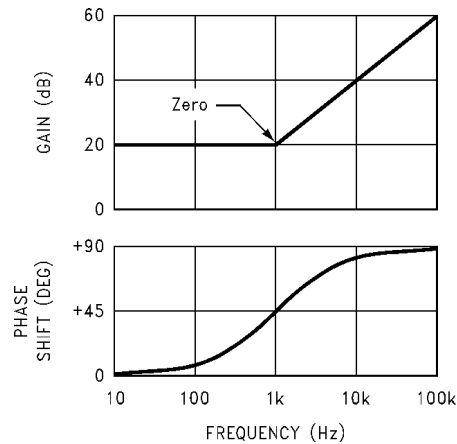

Figure 26. Effects of a Single Zero
**ZERO:** A zero has an effect that is exactly *opposite to a pole*. A zero will add a maximum  $+90^\circ$  of **phase lead** (defined as **positive phase shift**). Also, a zero causes the slope of the gain curve to **increase** by an additional  $+20$  dB/decade (see Figure 26).